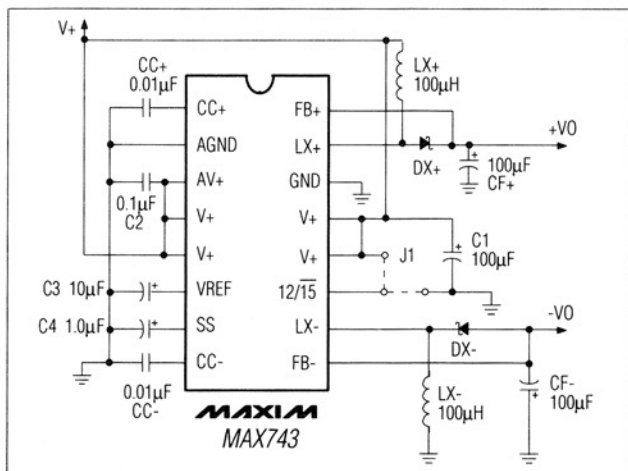
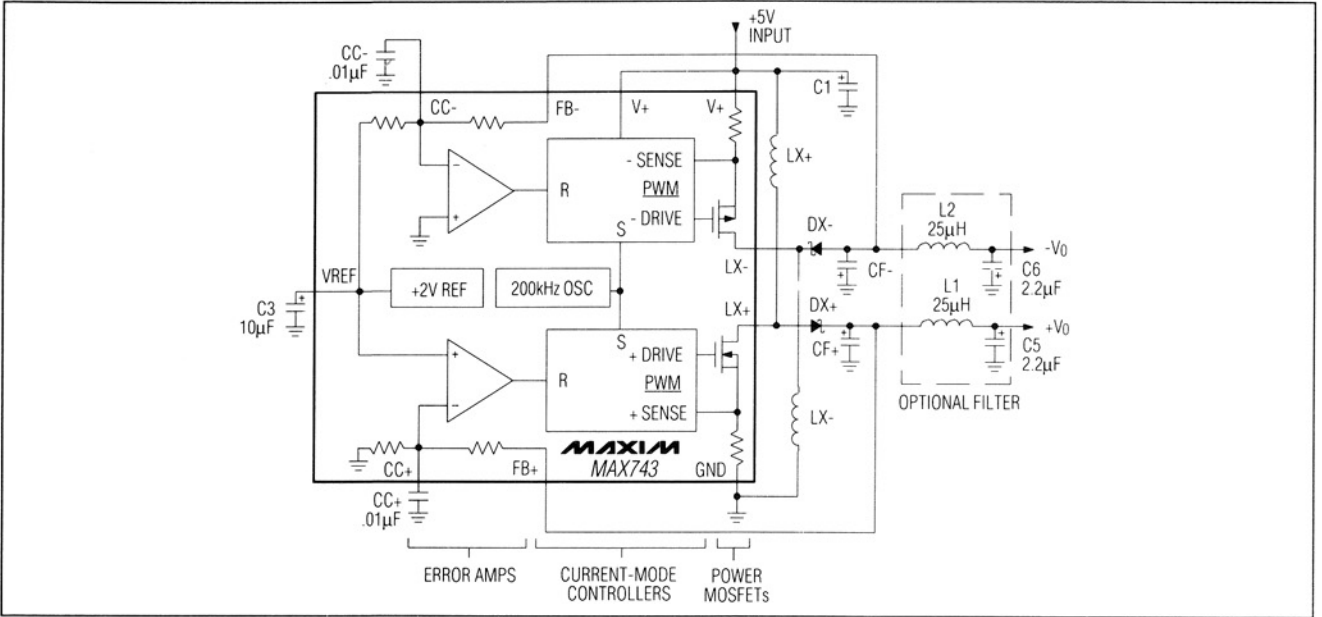
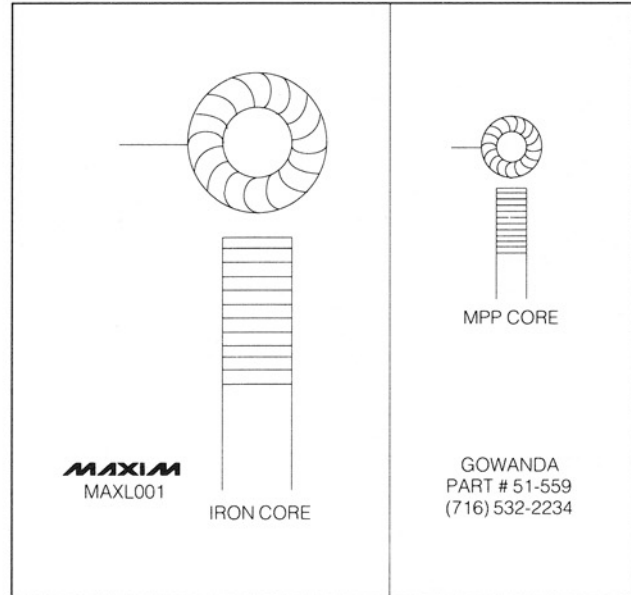
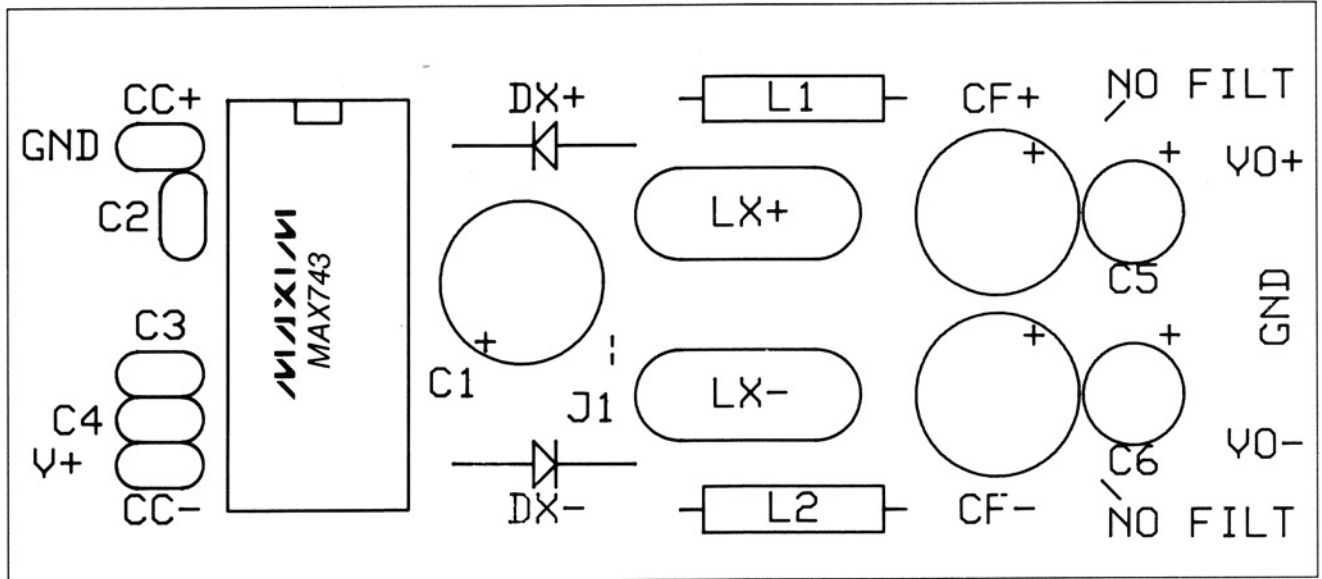

Figure 1. Basic Application Circuit
Figure 4. Functional Diagram with Optional Pi Filter
Figure 5. 100 $\mu$ H Low-EMI Inductors for 3W Supplies (Actual Sizes) (See Table 1)
Figure 7. Component Placement Diagram for PC Layout of Figure 6
(Circuit of Figure 1,  $+4.5V < V_+ < +5.5V$ , Note 1.)
(Circuit of Figure 1,  $V_+ = +5.0V$ ,  $12/15$  pin =  $0V$ ,  $I_{LOAD} = 0$ ,  $T_A = T_{MIN}$  to  $T_{MAX}$ , unless otherwise noted.)
The circuit in Figure 1 has been tested at all line, load, output current, and temperature limits. Refer to the Electrical Characteristics table for guaranteed in-circuit specifications. Successful use of this circuit requires no component calculations.
The MAX743EVKIT Evaluation Kit demonstrates the output capabilities and noise performance of the MAX743 standard application circuit (Figure 1). The kit includes main switching components identical to those found in the high-volume production kit described on page 11 (MAX743CPEKIT). With a few quick modifications, the circuit can also serve as a low-noise test bed to evaluate other components, such as the miniature MPP toroid inductor of Figure 5. The kit includes optional Pi filters shown in the Functional Diagram (Figure 4), which reduce output noise to less than 2mVp-p.
**1. Build Circuit.** Assemble the PC board according to the component placement diagram of Figure 7 and the schematic of Figure 4. 3 resistors will be left over (and used for testing). The extra holes near LX and CF are options for nonstandard component sizes. Do not install jumper, J1, or C4.